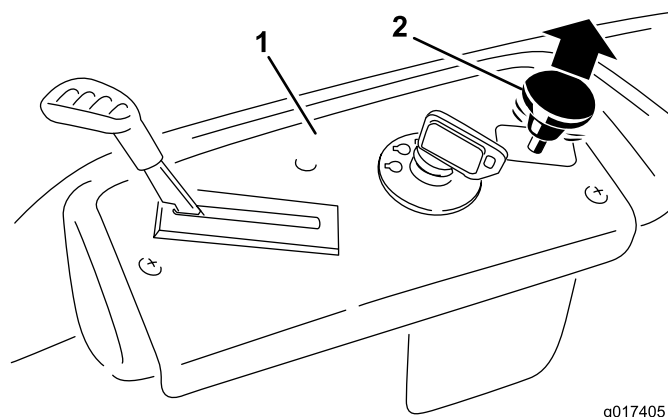

Figure 14
3. Pull up on the blade control switch to move it to the On position and engage the blades (Figure 14).